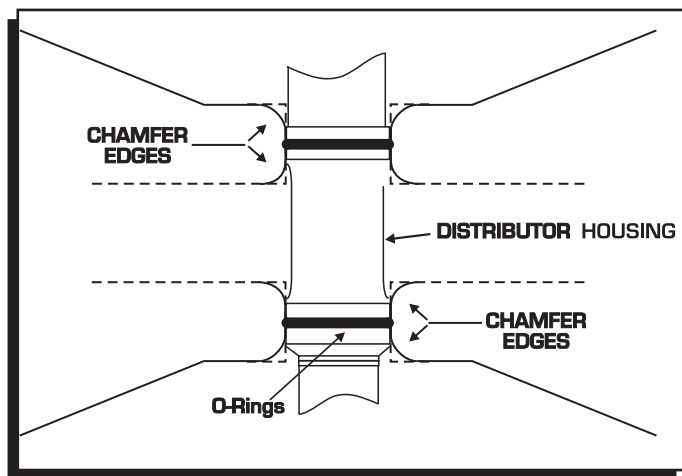

Figure 10 Modified Chevy Block for use with O-Rings.
7. Install the gasket and apply a liberal amount of the supplied lubricant to the distributor gear. (The supplied O-rings can **only** be used if the Chevrolet block has been modified as shown in Figure 10.)